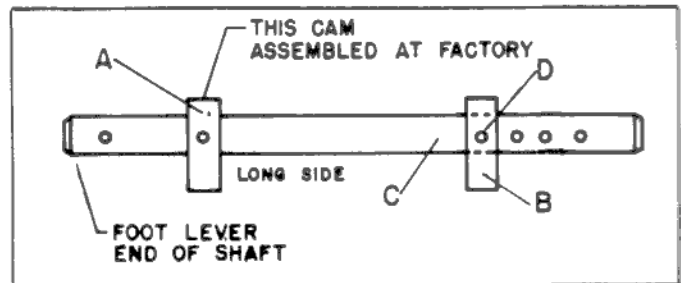

Fig. 3
1. Before assembling caster set to stand, determine which side of the stand would be most convenient for the foot levers. The foot lever end of the shaft has a cam (A) Fig. 3, assembled in place at the factory.
3. Assemble the cams (B) on both shafts (C) at hole (D) Fig. 3. Assemble one cam on each shaft. Cams on each shaft must match when assembled, as shown in Fig. 3.